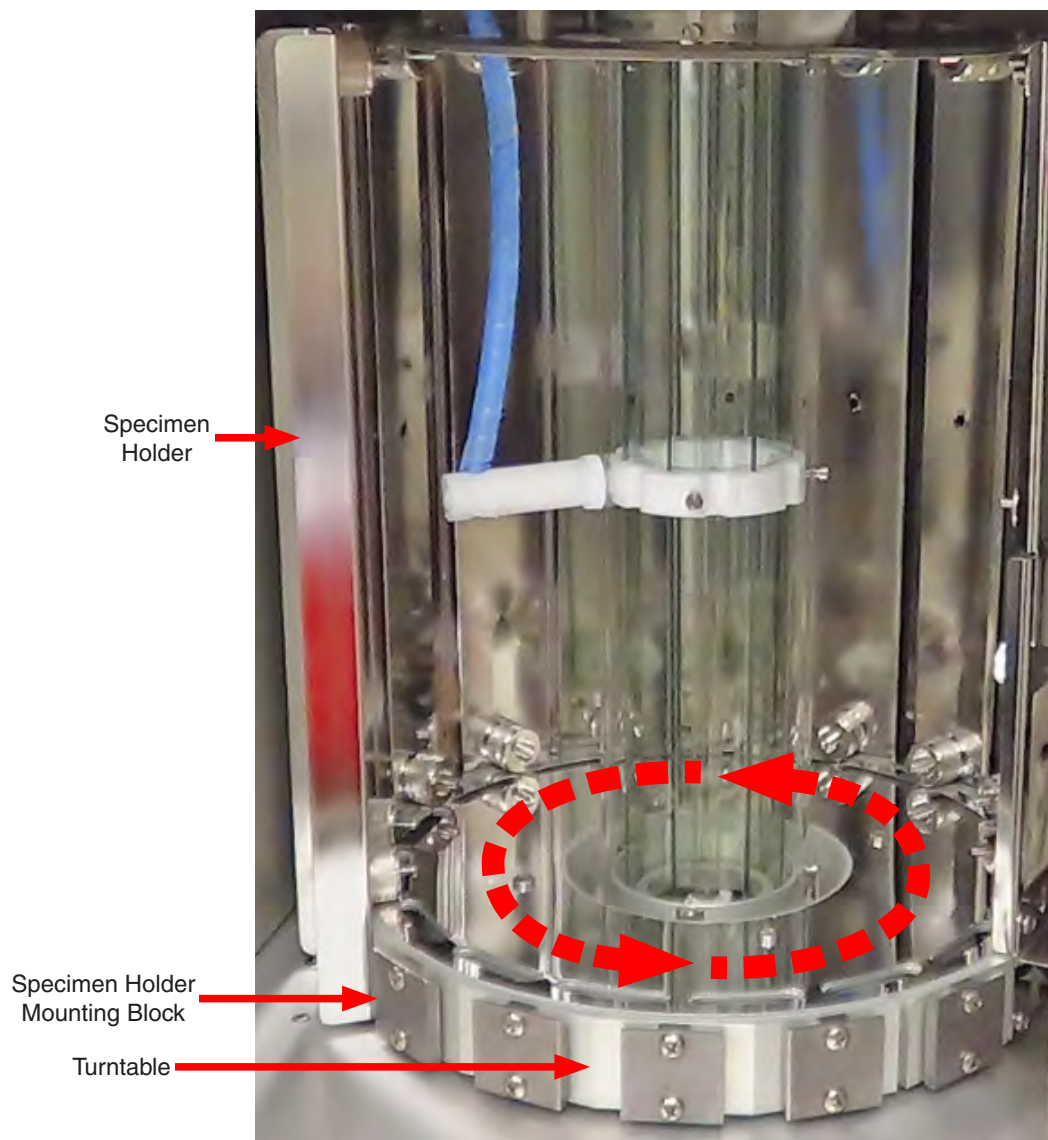

Figure 6.1: Specimen holder and turntable showing rotation (some holders removed).
- Specimens are mounted in holders (Figure 6.1).